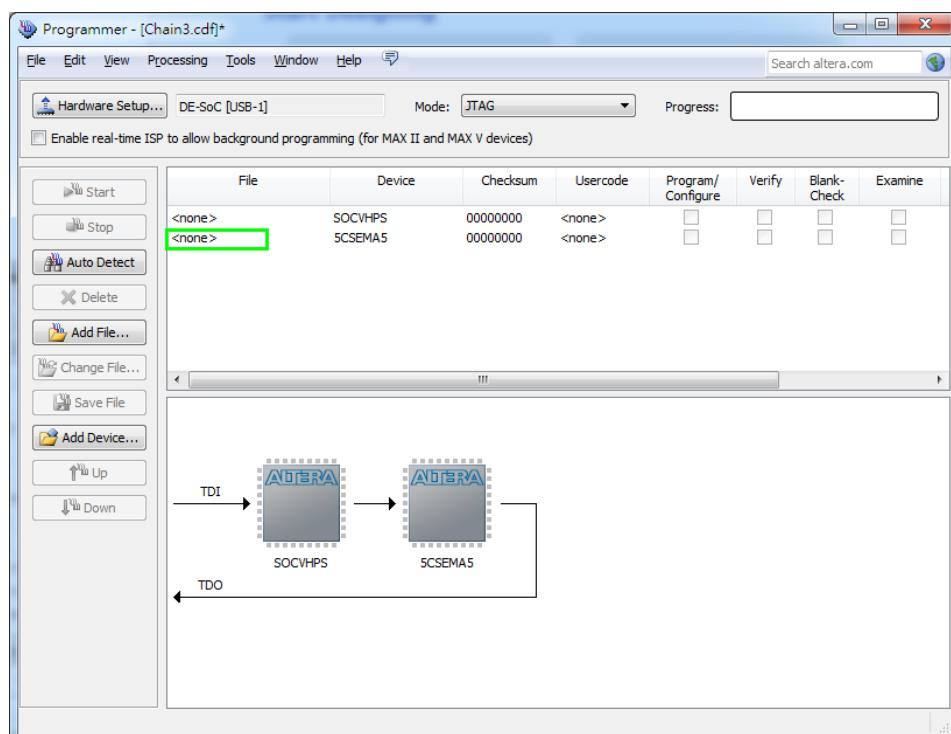

Figure 8-6 Two devices are detected in the Quartus II Programmer
3. Click **Auto Detect** and then select the correct device. Both FPGA device and HPS should be detected, as shown in **Figure 8-6**.
4. Double click the green rectangle region shown in **Figure 8-6** and the **Select New**
3. Click **Auto Detect**, and then select correct device, both FPGA device and HPS will detected. (See **Figure 8-6**)
4. Double click the green rectangle region shown in **Figure 8-6**, and the **Select New Programming File** page will appear. Select the correct .jic file.